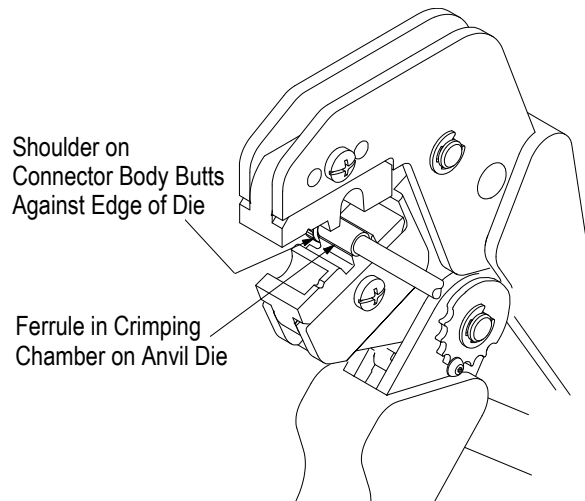

Figure 3
4.2. Ferrule (Figure 3)
3. Place the ferrule in the ferrule crimping chamber of the anvil die so that the shoulder on the connector body butts against the edge of the die. See Figure 3.